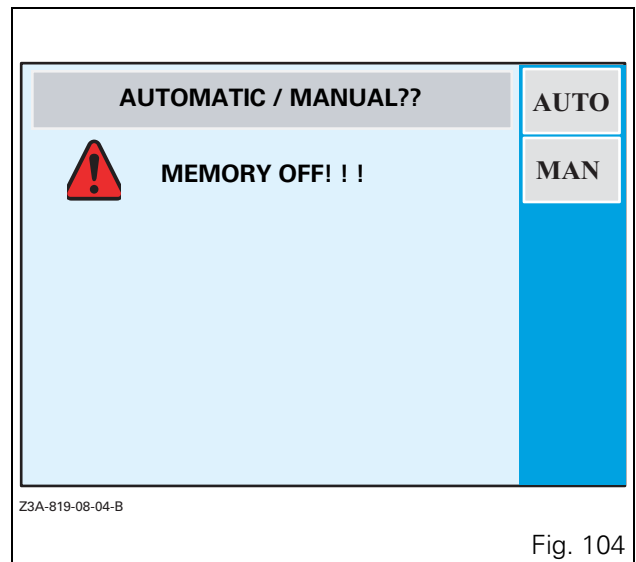

Fig. 104
- Press the key \llcorner_1 (AUTO) when the window (Fig. 104) is open. A new display appears (Fig. 105).